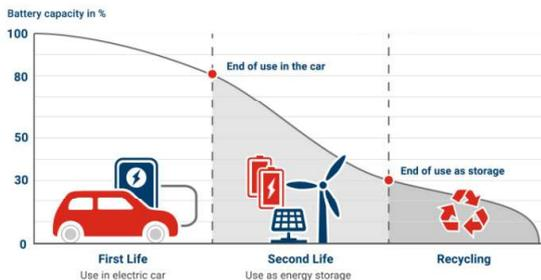

Figure 1: Battery life (4).
So it is important to know the SoH to predict the RUL. RUL prediction is important because if electric vehicle batteries have reached their End of Life (SoH < 80%), however the batteries are still usable for other applications (store renewable energy as an energy buffer) as shown in Figure 1 (4).